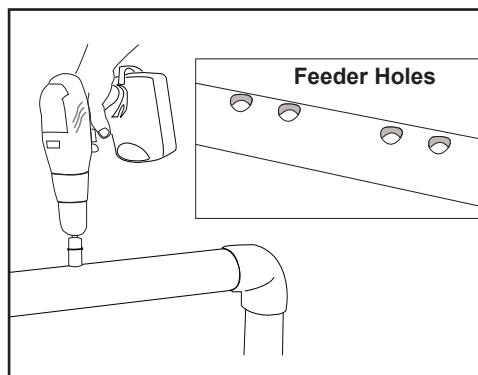

Figure 8. Drilling Feeder Holes
7. Drill the feeder holes using the holesaw provided. Ensure holes are clean and smooth (see Figure 8).